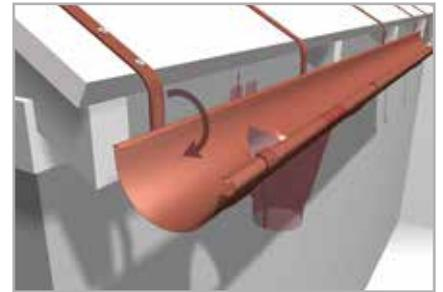

Fig. 20
- 3.9 Bend the rafter bracket plates **(Fig. 20)**